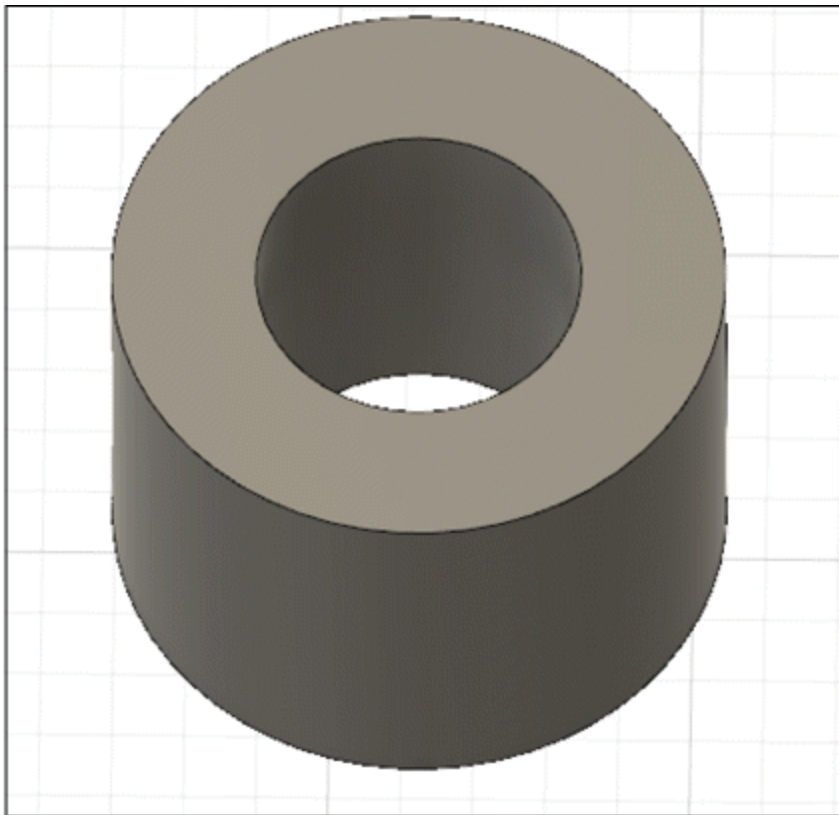

Figure-117. Solid model after applying thicken tool
- Click **OK** button of **THICKEN** dialog box to finish the process; refer to Figure-117.